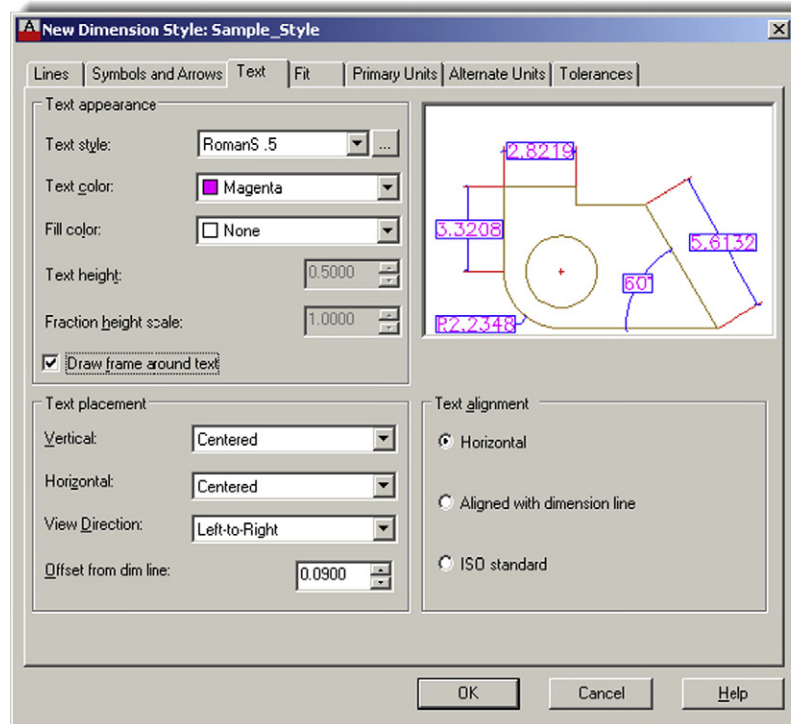

FIGURE 13.4
- **Text color:** Usually not set separately and remains “By Layer.” Here, for practice, we set it to the color Magenta, as seen in Figure 13.4.
The Text placement category (bottom left) allows you to position the dimension value in every conceivable way near the rest of the dimension. You can place the values above, below, or centered on the dimension line. You can also move the values around the extension line, lining them up. Experiment with all the possible settings, observing the results in the preview window to the upper right. The default setting for both Vertical and Horizontal is Centered, as seen in Figure 13.4. View Direction: flips the values around and Offset from dim line: is best left alone and is adjusted as part of the overall scale settings.
With Text alignment (bottom right), the common default is Horizontal, because people generally do not want to tilt their heads to the side every time they check a dimension on a printout. Do try the other two options (aligned and ISO) to see what they do, though. Your Dimension Style dialog box should look like Figure 13.4.